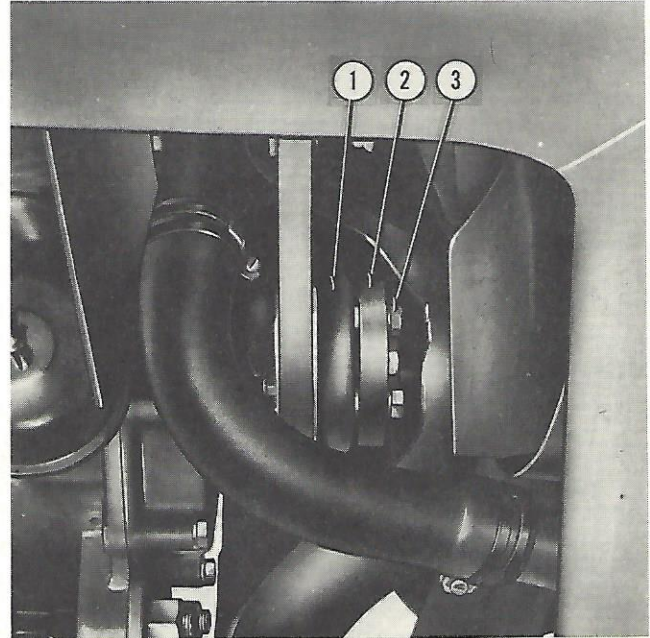

Figure 6
1. Remove the four bolts from the crankshaft pulley, (1) Figure 6. Be careful not to move the crankshaft pulley after removing the hex head bolts, so as to maintain hole alignment.
3. Start the four attaching bolts (3), Figure 6, into the crankshaft pulley. After all four bolts are in place, tighten securely.